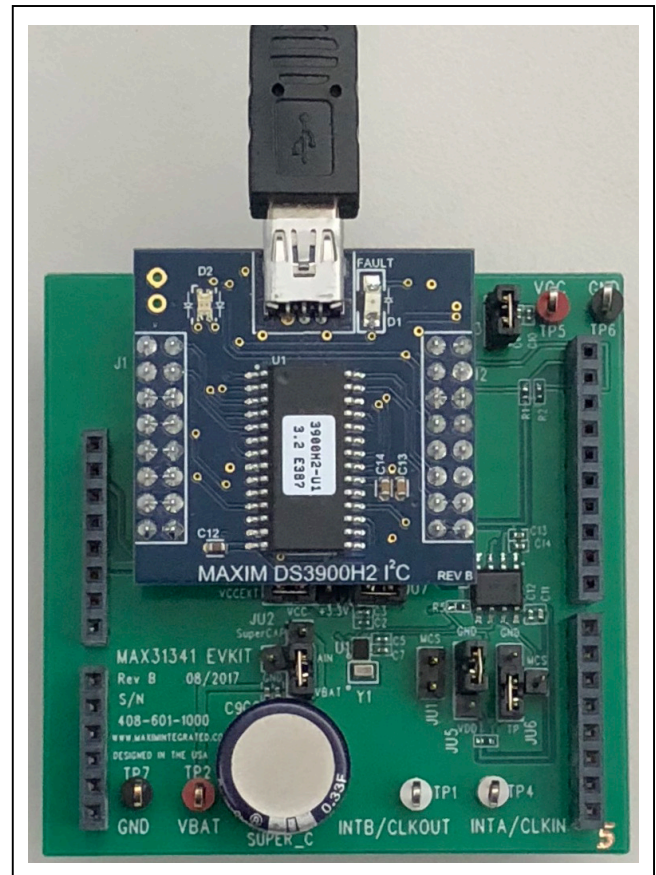

Figure 2. USB Connection
- 4) Connect the **DS3900H2 I2C Circuit Board** to the EV kit at the location shown as DS3900 (Figure 2).